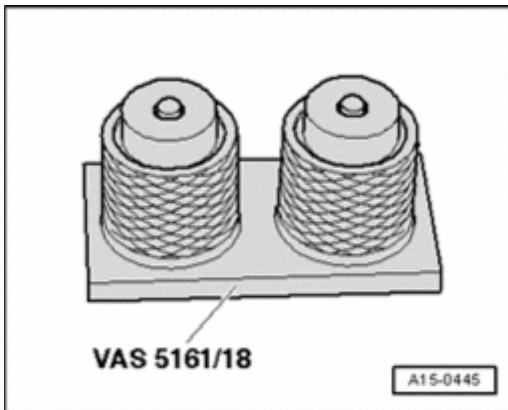

Fig. 860: Secondary Air Injection (Air), Component Overview
- Installed location: - **Arrow** - points in direction of flow, as shown in **Fig. 860**.